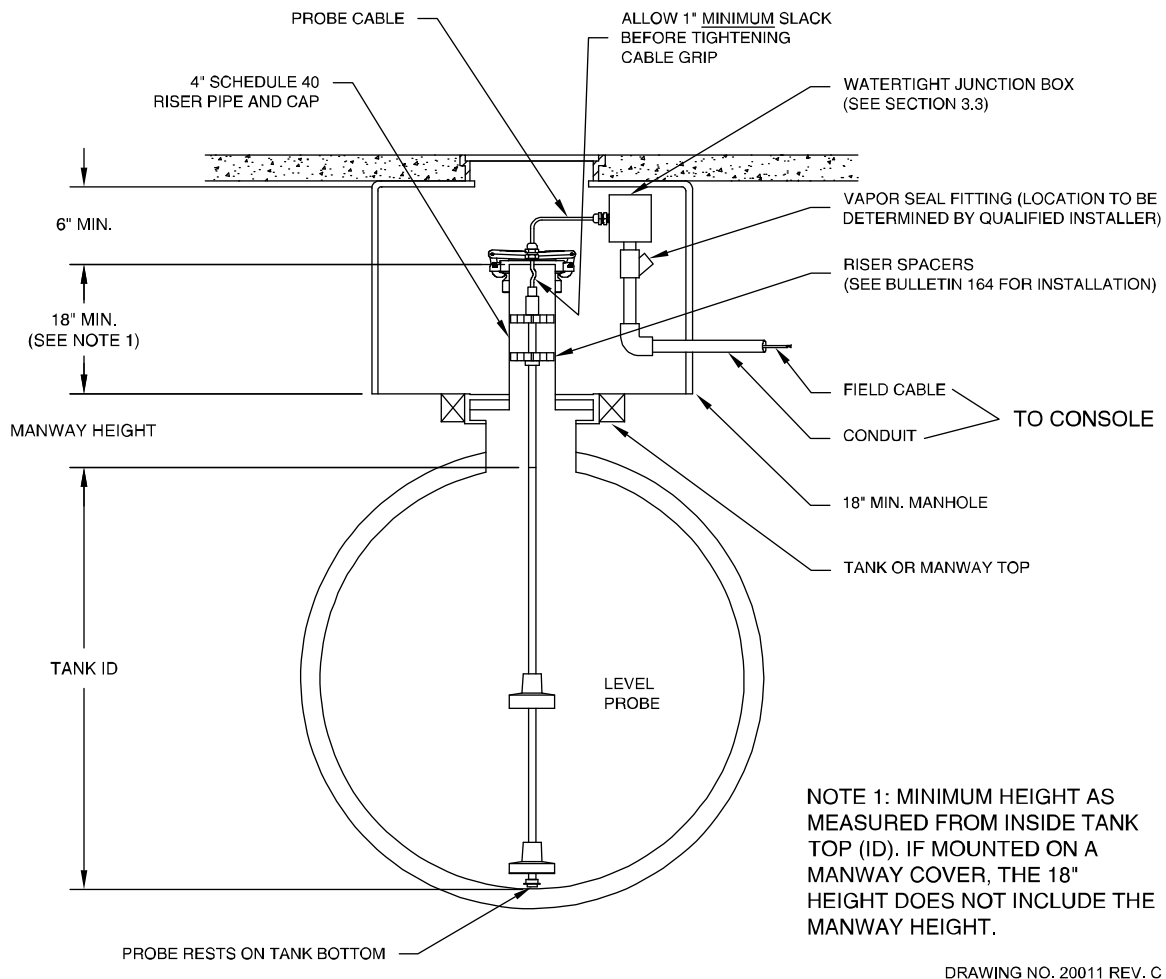

Figure 2-4 – Level Probe Installation - Underground Tank
Installing the magnetostrictive level probe underground is similar for both STEEL and FIBERGLASS tanks. Refer to Figure 2-4. The tank top must be equipped with an access MANHOLE containing a probe RISER PIPE and WATERTIGHT ELECTRICAL JUNCTION BOX supplied by the installer; the junction box should be sized to handle ONLY PROBE AND MANHOLE LEAK SENSOR cable splices for wiring to the console. The manhole should be at least 18 inches in diameter and a height suitable for the tank burial depth. The riser should be 4-inch pipe opening (2 and 3-inch optional). The tank opening must be fitted with a schedule 40 RISER PIPE cut to length to provide the minimum height of 18 inches shown measured from the TANK TOP (ID) to the probe's RISER CAP. The level probe's electronic housing will reside "inside" the riser. The riser top should be NPT male threaded and allow a clearance of at least 6 inches to the underside of the manhole cover. This will provide enough space for the riser cap and probe cable. For riser caps not supplied by Pneumercator, the cap must have a 1/2-inch NPT tapped hole for probe cable passage.